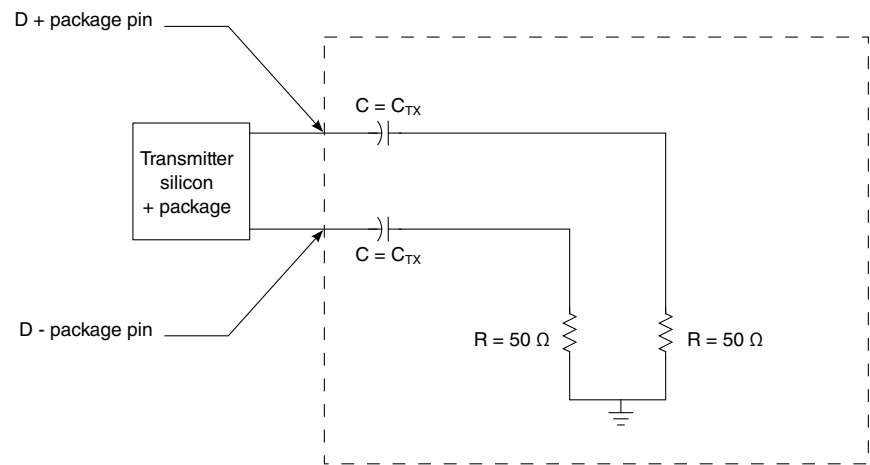

Figure 76. Test/measurement load
1. Specified at the measurement point into a timing and voltage test load as shown in Figure 76 and measured over any 250 consecutive transmitter UIs.
Notes: 1. Specified at the measurement point into a timing and voltage test load as shown in Figure 76 and measured over any 250 consecutive transmitter UIs. 2. The chip's SerDes transmitter does not have C _{TX} built-in. An external AC coupling capacitor is required. 3. For recommended operating conditions, see Table 3 .
1. Specified at the measurement point and measured over any 250 consecutive UIs. The test load in Figure 76 must be used as the receiver device when taking measurements. If the clocks to the receiver and transmitter are not derived from the same reference clock, the transmitter UI recovered from 3500 consecutive UI must be used as a reference for the eye diagram. 2. A $T_{RX-EYE} = 0.40$ UI provides for a total sum of 0.60 UI deterministic and random jitter budget for the transmitter and interconnect collected any 250 consecutive UIs. The TRX-EYE-MEDIAN-to-MAX-JITTER specification ensures a jitter distribution in which the median and the maximum deviation from the median is less than half of the total. UI jitter budget collected over any 250 consecutive transmitter UIs. It must be noted that the median is not the same as the mean. The jitter median describes the point in time where the number of jitter points on either side is approximately equal as opposed to the averaged time value. If the clocks to the receiver and transmitter are not derived from the same reference clock, the transmitter UI recovered from 3500 consecutive UI must be used as the reference for the eye diagram. 3. It is recommended that the recovered transmitter UI is calculated using all edges in the 3500 consecutive UI interval with a fit algorithm using a minimization merit function. Least squares and median deviation fits have worked well with experimental and simulated data. 4. For recommended operating conditions, see Table 3.